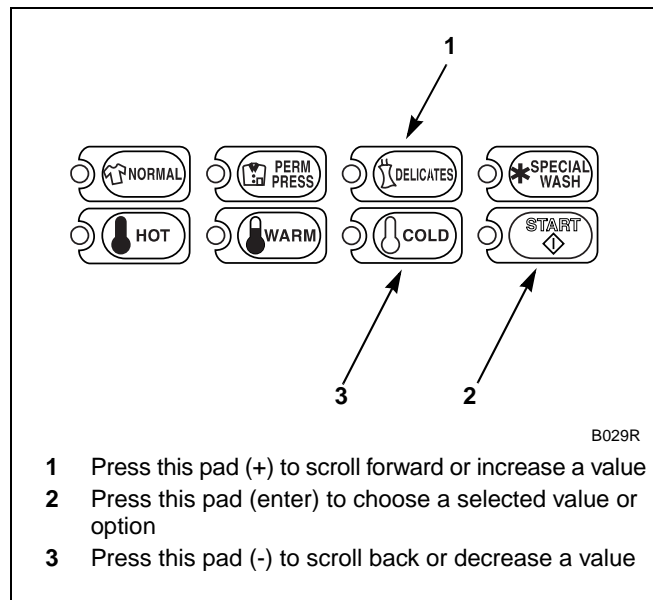

Figure 50
5. Press the DELICATES (+) or the COLD (-) keypad to increase or decrease the current number to the desired number selected from *Table 1*. Refer to *Figure 50*.